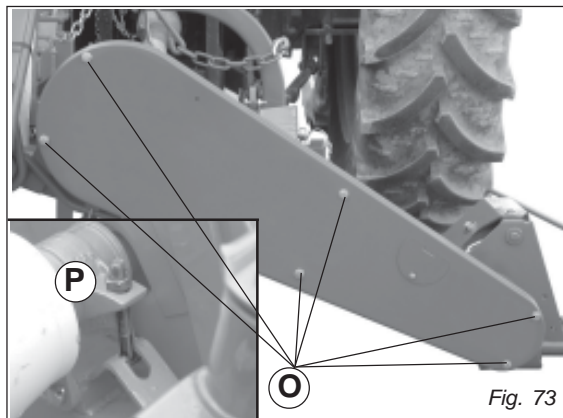

Fig. 73
- Unscrew the screws (O, Fig. 73) and remove the protective casing.
- Loosen the belt tensioner completely (P, Fig. 73).
- Put the protective casing back in position and fix it in place with the screws (O, Fig. 73).